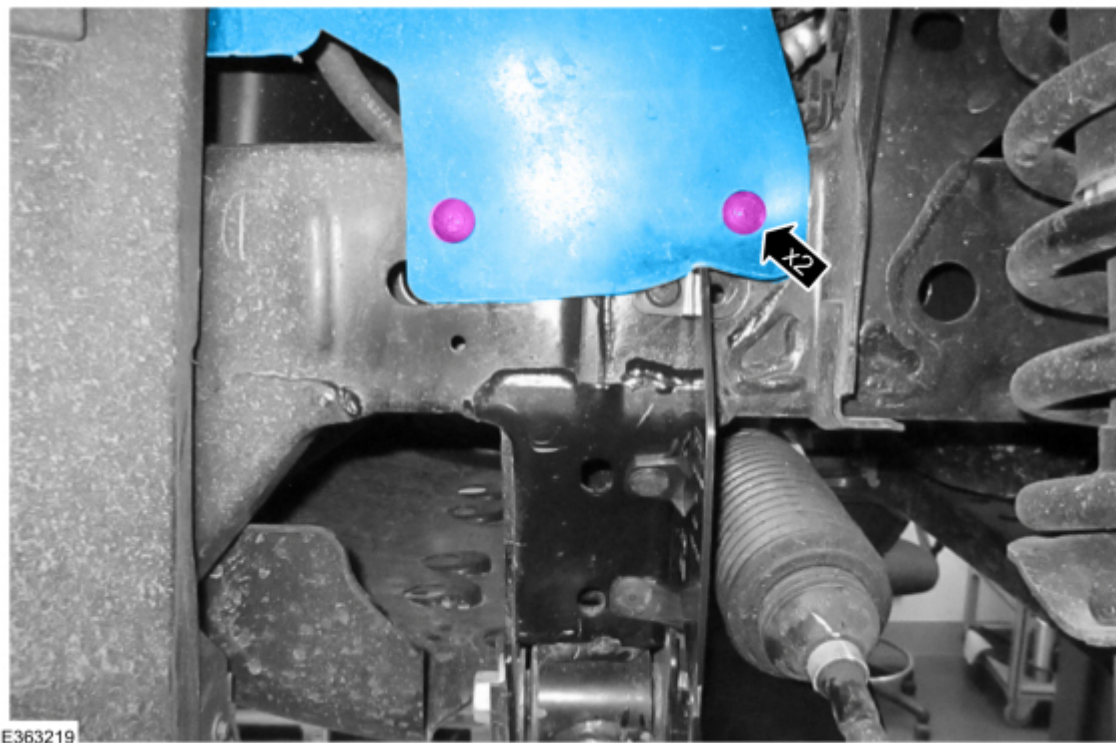

Figure 11
**13.** Install the left hand front splash shield. (Figure 11)